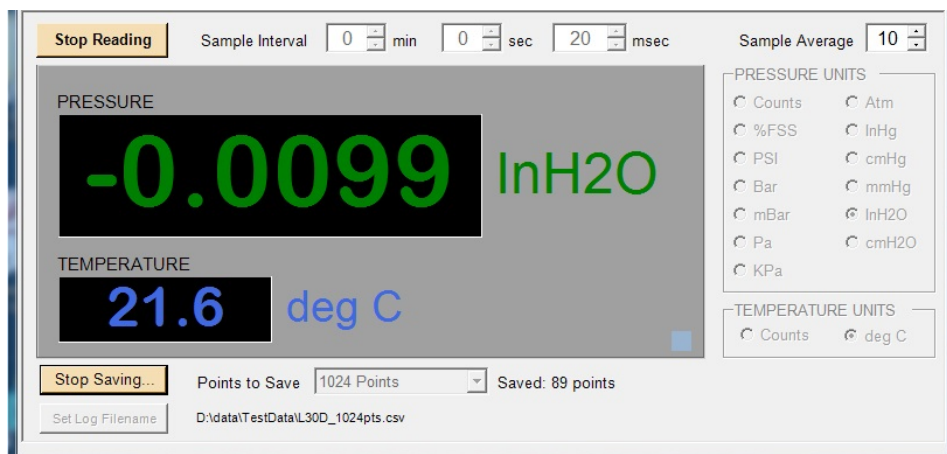

Figure 10
**Data can be saved continuously or until a fixed number of points have been acquired, as determined by the 'Points to Save' control (Figure 10).**